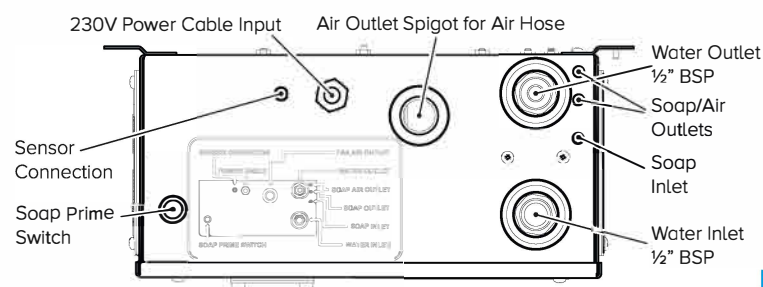

Fig 11
1. To connect the module to the water supply simply screw on half a 1/2" BSP connector to the "water inlet" detailed in fig 11.